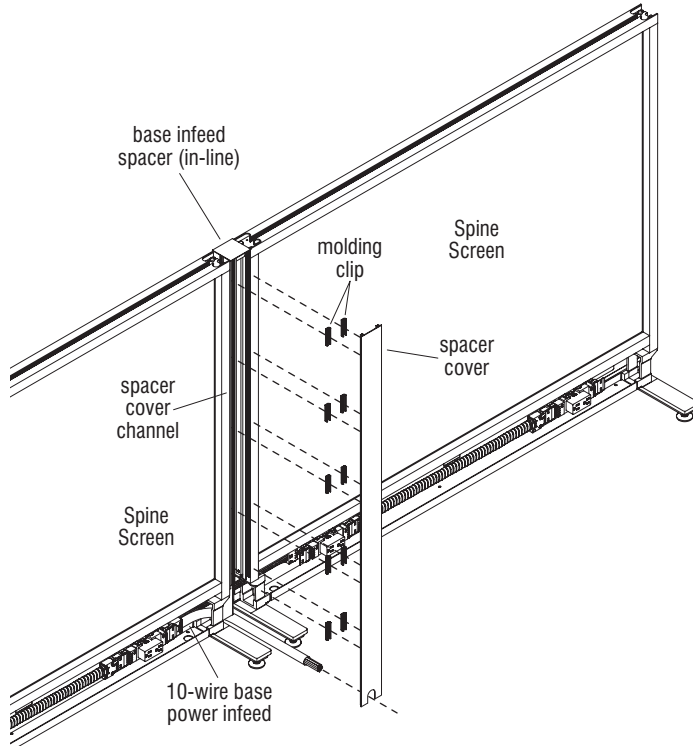

Figure 25
7. On the rib side of the spacer cover, space molding clips evenly apart and press them onto the ribs of the cover (Figure 25 & Detail JJ).
8. Position the spacer cover with molding clips up against the spacer cover channel with the 10-wire base infeed routed through the opening at the bottom of the spacer cover. Using a firm hand, press on the spacer cover at the molding clip locations to snap molding clips into the spacer cover channel (Figure 25 & Detail JJ).